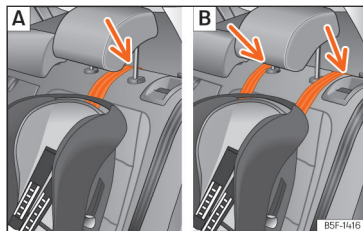

Fig. 40 Rear seats: adjustment and assembly according to the Top Tether belt.
- Position the belt under the headrest (according to the instructions of the seat itself, lift or remove the headrest if necessary) >>> **Fig. 40**.